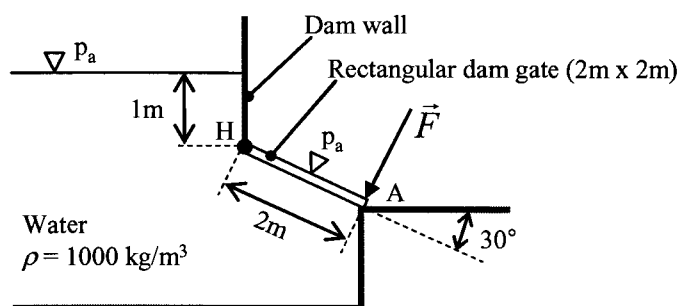

Figure 1
2. The rectangular dam gate shown in Figure 1 is hinged at point H in a dam wall. The gate is 2m wide normal to the plane of the figure. Calculate the minimum force  $\vec{F}$  acting at point A required to hold the gate closed.